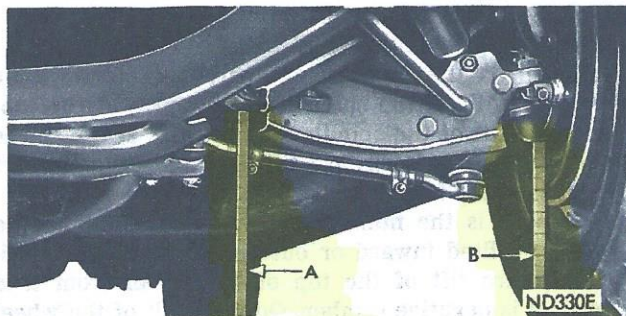

Fig. 2—Measuring Front Suspension Height
(1) Clean all foreign material from bottom of steering knuckle arm assemblies and from lowest area of the height adjusting blades directly below center of lower control arm inner pivots.
(2) Jounce vehicle several times releasing it on downward motion.
(3) Measure distance from lowest point of one adjusting blade to floor (Measurement A) and from lowest point of steering knuckle arm, at the centerline, on same side (Measurement B) to floor (Fig. 2). Measure only one side at a time.